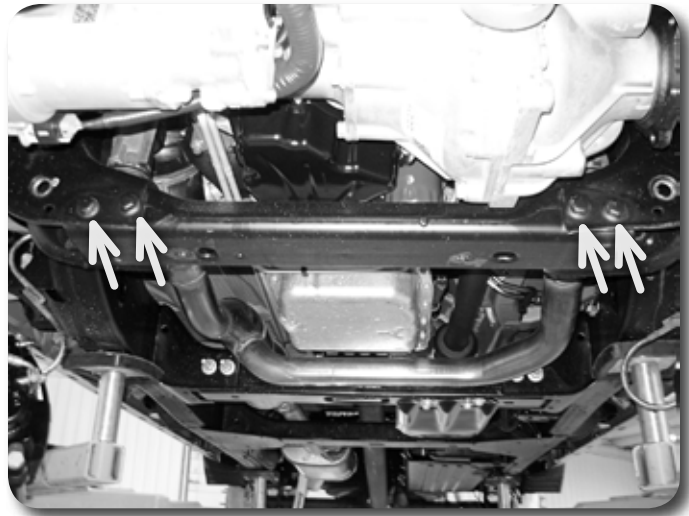

Figure 10
17. Remove the factory rear crossmember from the vehicle by removing the 4 bolts. Figure 10. Crossmember and hardware will not be reused.